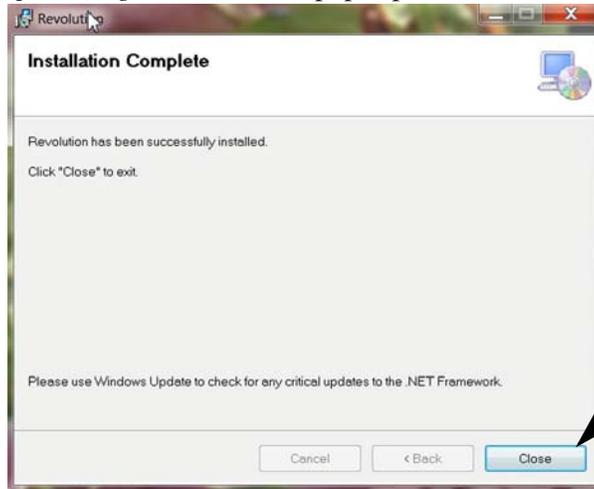

Figure 4-9. Installation Complete Screen
8. When *Installation Complete* (Figure 4-9) screen pops up, click Close.